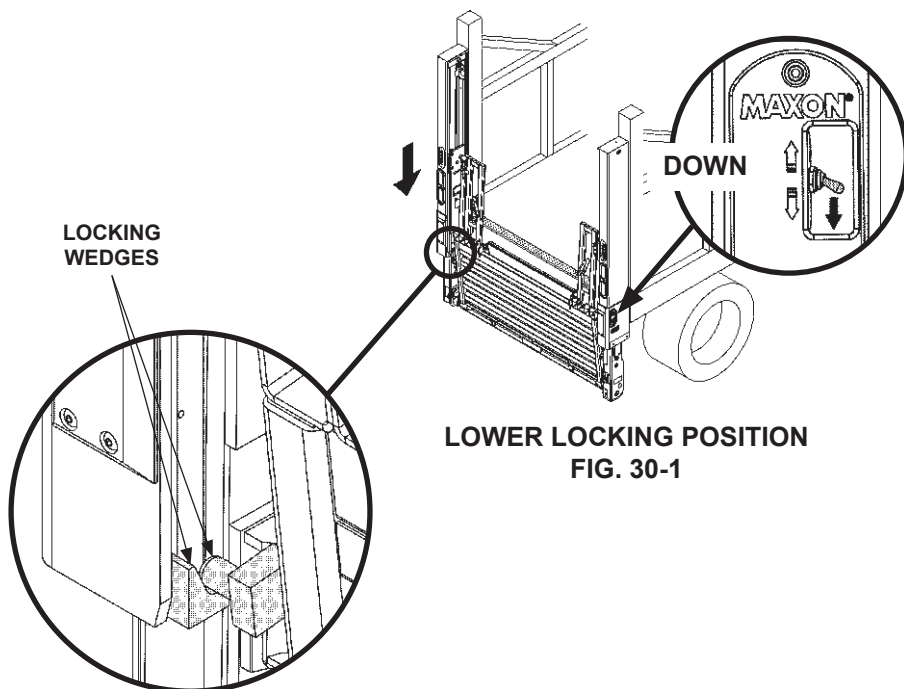

FIG. 30-1A
1. Use column switch to lower (**DOWN**) platform to lower locking position (**FIGS. 30-1 & 30-1A**). Release switch when top edge of closed platform is below bed height and resting on lower locking wedges (**FIG. 30-1A**).